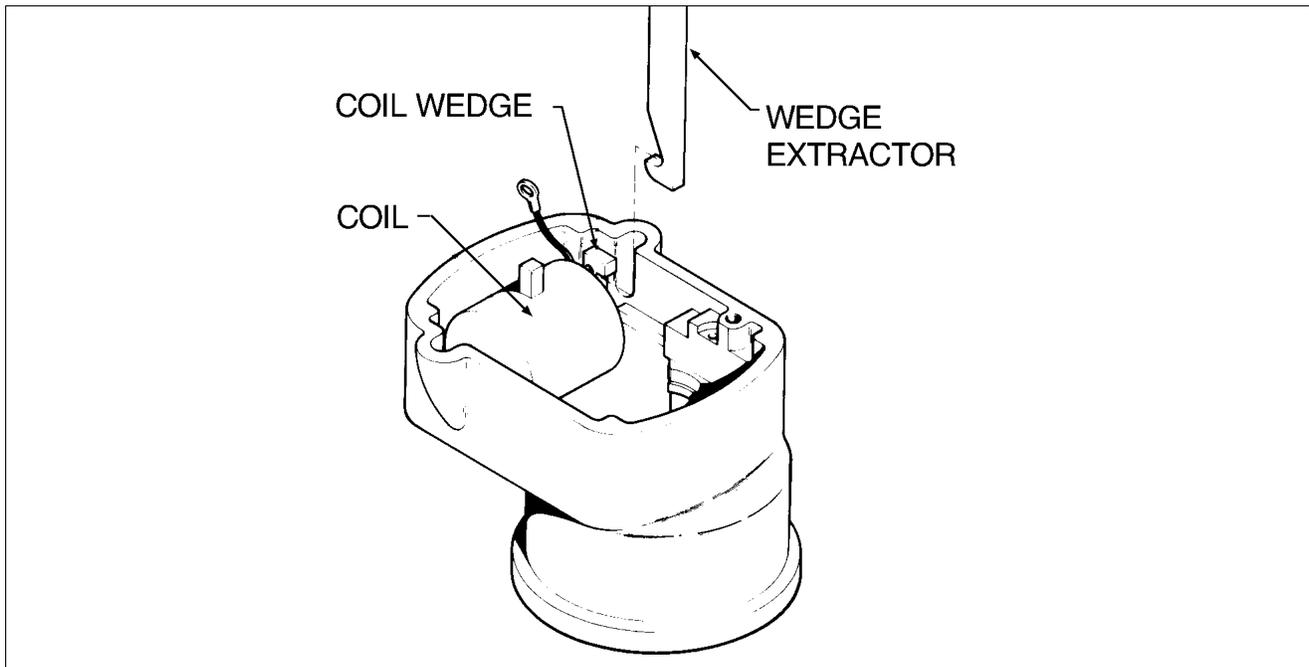

Figure 74-9. Removing Coil Wedges
- (10) Remove coil
- (b) Using coil wedge extractor T-122, remove coil wedges and lift out coil (see Figure 74-9).
- (11) Remove air vent/pressure vent plug from magneto.
- (12) Remove oil seal from magneto.